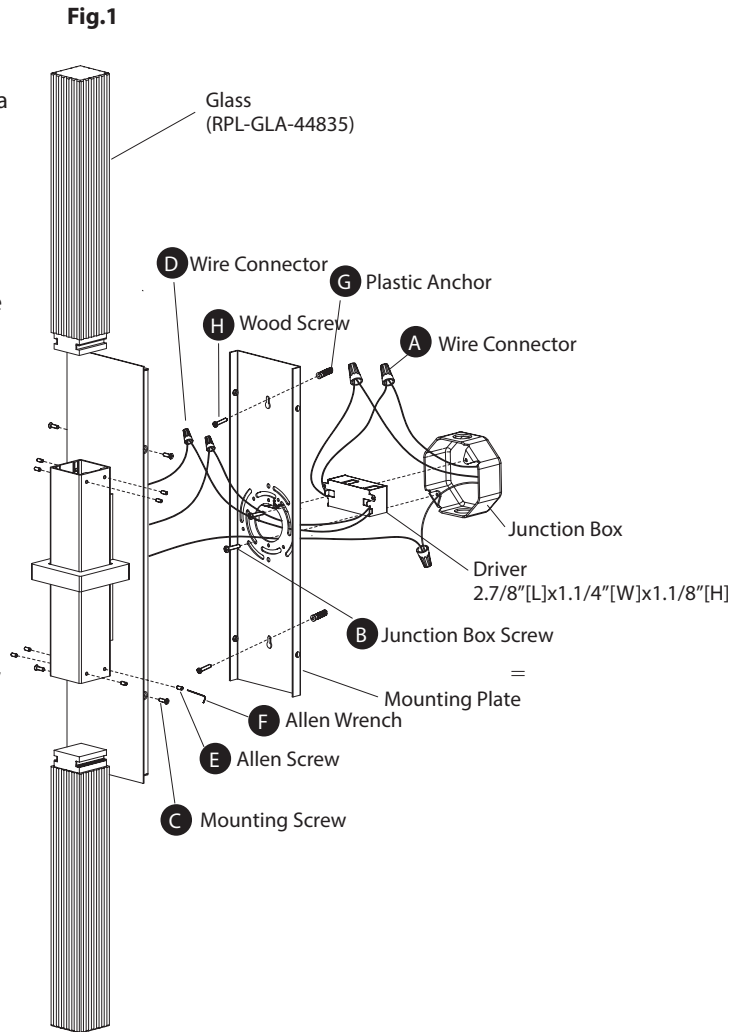

Fig. 2 Wiring
### CONNECTING THE WIRES (Fig. 2)
3. Remove the mounting screw (C) from the mounting back plate.
4. Drill holes in the wall aligned with the key holes located in the mounting back plate, insert the plastic anchors (G).
5. Connect the Driver's input wires to junction box wires as shown in Fig. 2, making sure that all wire connectors (A) are secured. If your outlet box has a green or bare copper ground wire, connect the fixture's ground wire directly to the back plate using the green screw provided. After wires are connected, tuck them carefully inside the junction box.
6. Secure the mounting back plate to the junction box using junction box screws (B), fasten it to the wall using wood screw (H). The side of the mounting back plate marked "GND" must face out.
7. Connect the driver's output wires to the fixture as shown in Fig.2, making sure that all wire connectors (D) are secured.
8. Secure the fixture to the mounting back plate using the mounting screw (C).
9. Insert the crystal into the fixture, secure it with Allen screw (E) using Allen wrench(F).